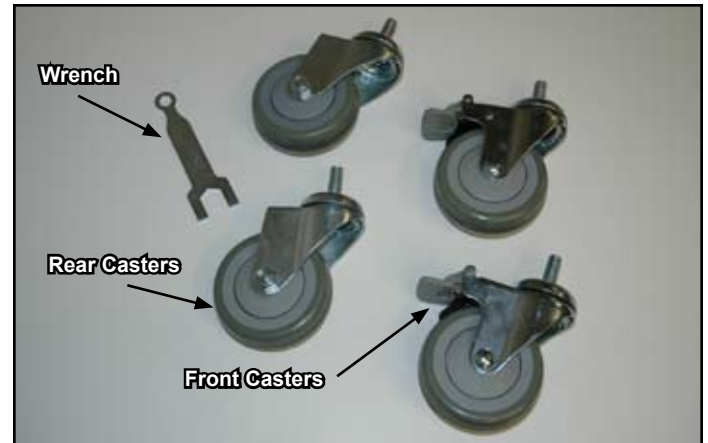

Figure 7
1. Parts/Items Needed: Two front swivel castors with brakes, two rear swivel castors, and the 3/4 inch open end wrench (from parts Carton A). See Figure 7.